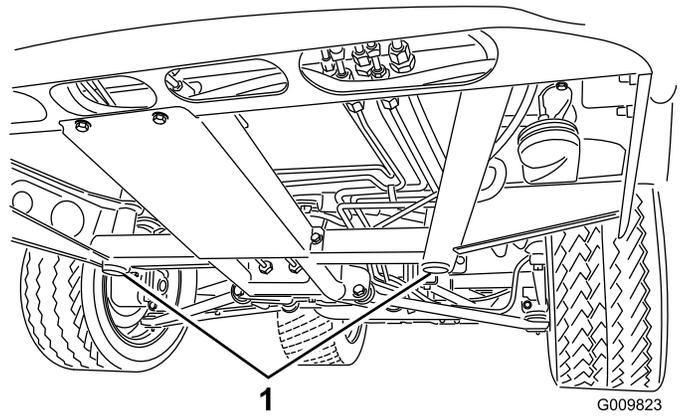
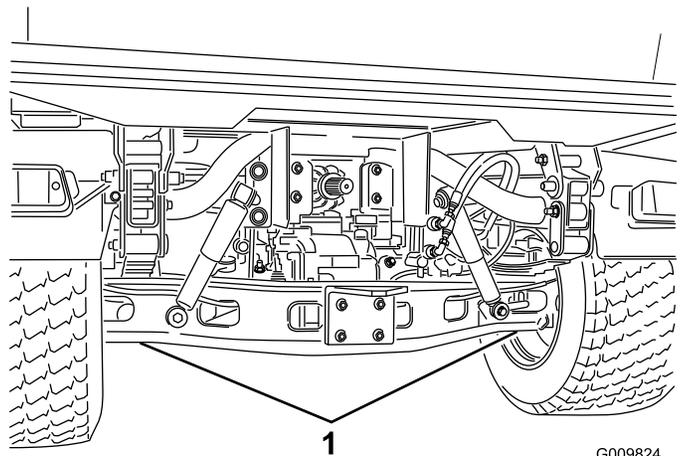

Figure 31
Figure 32
- The jacking point at the front of the machine is under the front center frame support (Figure 31) and at the rear it is under the axle (Figure 32).